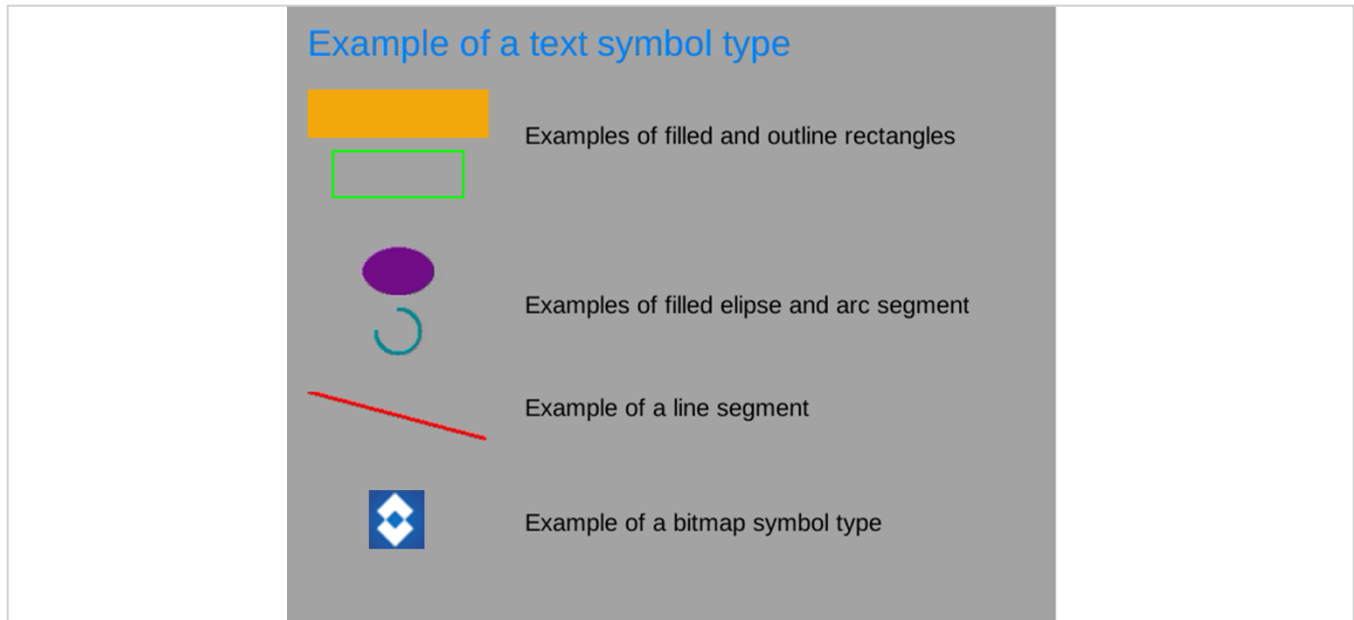

FIGURE 26: EXAMPLES OF SYMBOL TYPES
The Neutrino LC provides the option to specify custom symbol overlays. The camera supports several built-in symbol types, including rectangles, elliptical arcs, text, and lines, as exemplified in Figure 26. In addition to built-in symbols types, the camera also allows bitmaps to be uploaded to the camera for display. Width of the bitmap must be an integer multiple of 8.
- Start radius / end radius, from 0 to 360. This attribute applies to the arc segment symbol type only. It specifies the starting angle and ending angle, where angle = 0 is to the right and angle = 180 is to the left. The arc between the starting angle and ending angle is drawn clockwise. For example, the arc segment shown in Figure 26 has starting radius = 270 and ending radius = 180.
- Font type. 1 = built in font (Chrome Croscore Arimo font, used under authority of the Apache License, Version 2.0), 2 = user uploaded font file. This attribute applies to text symbol type only. All of the text shown in Figure 26 was generated with the built-in font.